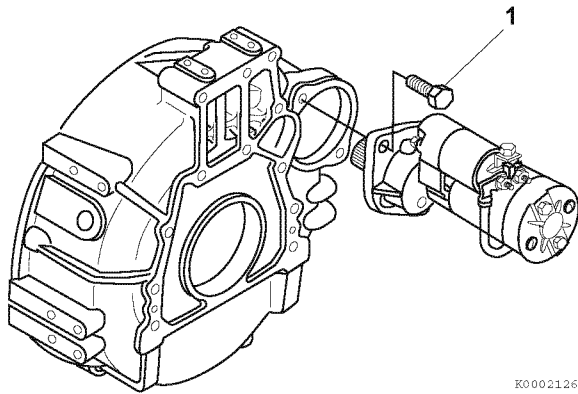

Figure 11-36
2. Reinstall the starter mounting bolts (**Figure 11-36, (1)**). Tighten the bolts to specification. *See Tightening Torques for Standard Bolts and Nuts on page 4-39.*